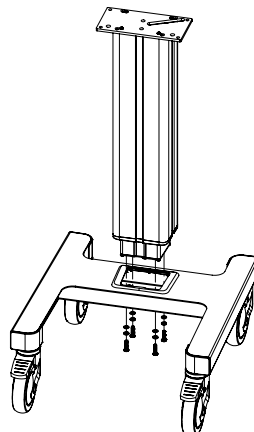

Figure 3
3. Join the column (**Box C**) with the base by sliding the column into the opening on top of the base (**Figure 3**) and fasten four 1/4 - 20 x 1" long screws, four #14 lock washers, and four #14 flat washer through the bottom of the base into the column. Ensure the bottom of the vertical column is placed inside the collar (pre-installed in the opening)